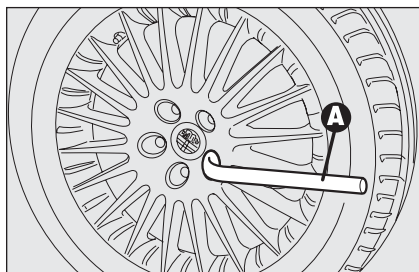

fig. 5a
- ☐ Loosen the bolts of the wheel to be replaced by about one turn with the wrench provided **A**-fig. 5a; shake the car to facilitate rim removal from the wheel hub;